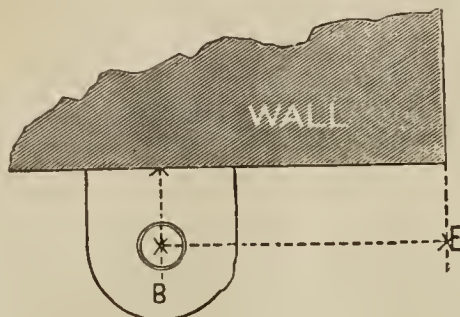

Fig. 278.
Give dimensions and position of Shutter Eye in the wall, as shown in Fig. 278, from center of eye at (B) to wall, and center of eye at (B) to jamb (E), also the size of the hole in eye at (B). If there is no eye in the wall, and you wish us to furnish same, give thickness of wall.